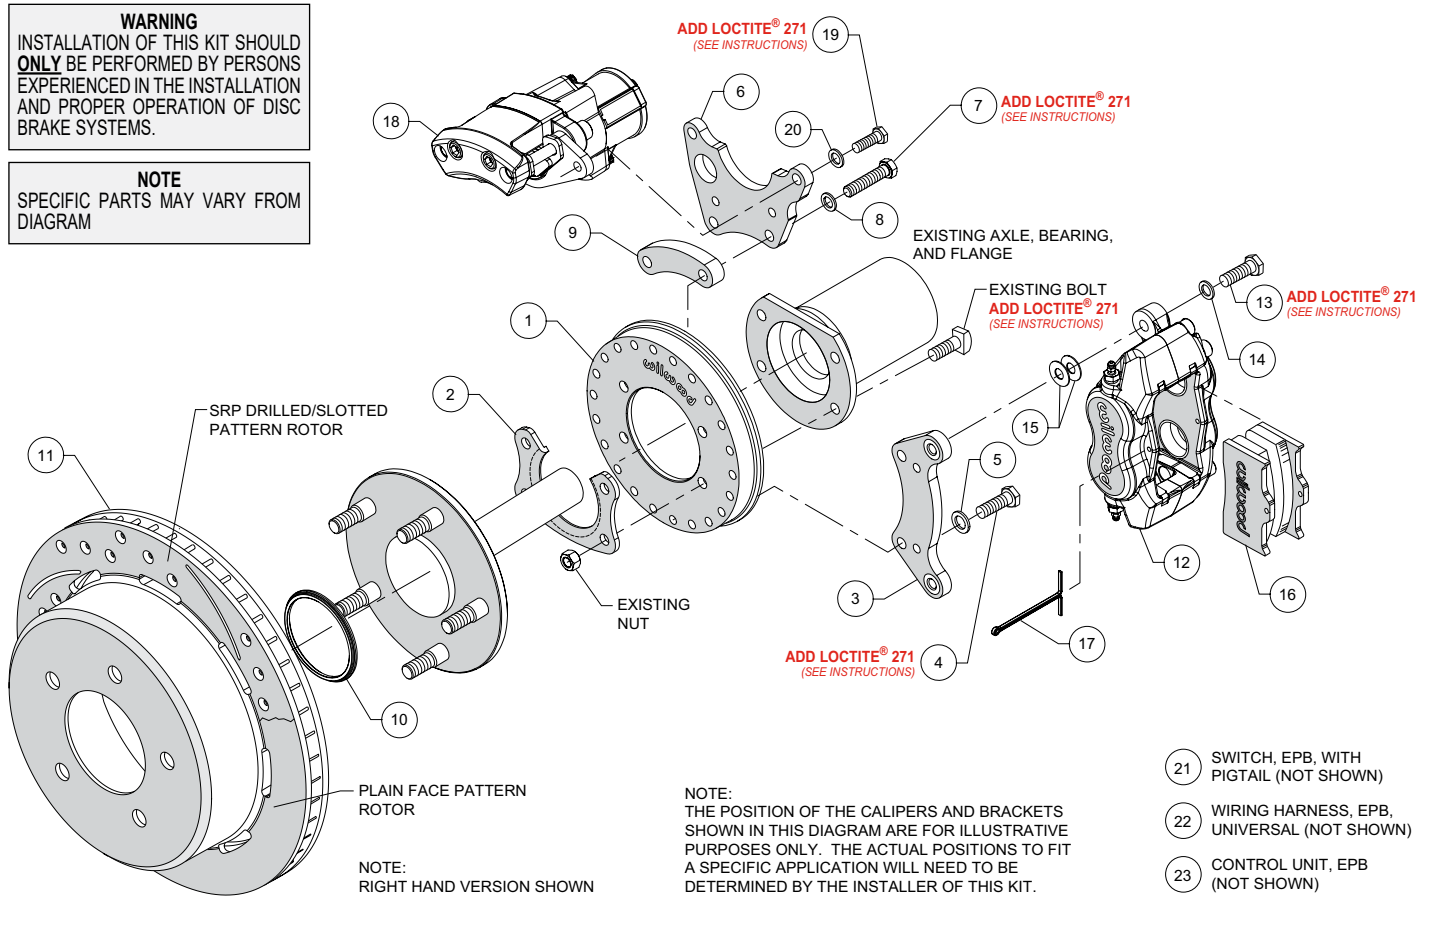
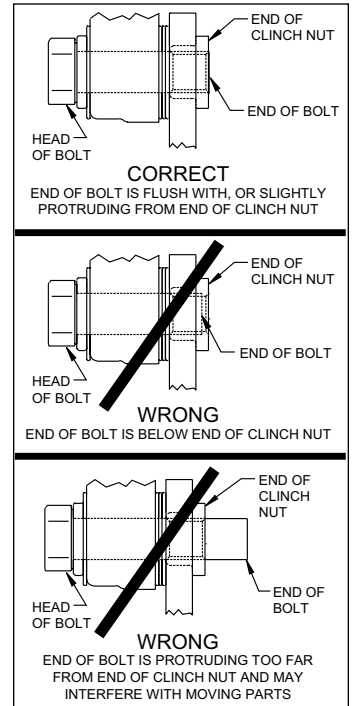

Figure 1. Typical Installation Configuration
Figure 5. Clinch Nut Engagement Diagram
NOTE: Numbers in parenthesis refer to the parts list and Figure 1 on the preceding pages.
CAUTION: All mounting bolts must fully engage clinch nuts. Be sure to check that all bolts are either flush or protruding through flanged side of clinch nut after shimming, Figure 5.
- Orient the backing plate (1) as shown in Figure 1 and Photo 1, and slide it onto the axle housing flange. Ensure the backing plate fits flush against the axle housing flange. Reinstall the axle into the axle housing.
- Install the bearing retainer (2) with the opening pointing upward and the lip facing inward (toward the bearing), as shown in Figures 1 and 4, and Photo 2. Secure retainer and backing plate to the axle housing flange using the Original Equipment Manufacturer (OEM) bolts and nuts, Figure 1 and Photo 3. Apply red *Loctite*® 271 to the OEM bolt threads and torque to OEM specifications.
•Start by determining the best location for the service caliper (12). This caliper is usually mounted in the 3:00 or 9:00 o'clock position, but may be rotated up or down approximately 45 degrees and still allow for proper bleeding, Photo 4. Orient the service caliper bracket (3) as shown in Figure 1 and Photo 5, and install to the backing plate (1) in the desired location using bolts (4) and washers (5). Temporarily tighten bolts. Next, mount the service caliper to the bracket using bolts (13) and washers (14). Temporarily tighten bolts. Check that the caliper (including inlet fitting and hose) has sufficient clearance to all surrounding components through the full suspension travel. Relocate the caliper/bracket on the backing plate as needed to ensure proper clearance is achieved.
•Determine the best location for the EPB caliper (18). **NOTE:** *The EPB caliper motor extends farther inboard than the service caliper and therefore needs additional consideration when determining a mounting location with sufficient clearance.* In the example application shown in Photo 6, the EPB caliper has sufficient inboard clearance to the leaf spring. However, if the EPB caliper were mounted closer to the 12:00 o'clock position, the inner body of the vehicle would hit the caliper during full compression of the suspension.
- Orient the EPB caliper bracket (6) as shown in Figure 1 and Photo 7, and install to the backing plate (1) in the desired location using bolts (7), washers (8), and spacer (9). Temporarily tighten bolts. **NOTE:** The EPB bracket is reversible. In one direction the bracket will position the EPB caliper closer to the service caliper, and vice versa if reversing the bracket. Next, mount the EPB caliper (18) to the bracket using bolts (19) and washers (20). Temporarily tighten bolts. **NOTE:** EPB calipers are Left and Right handed, however they can be used on either side of the vehicle to best suit your specific application. Check that the EPB caliper (including wiring harness connector) has sufficient clearance to all surrounding components through the full suspension travel. Relocate the EPB caliper/bracket on the backing plate as needed to ensure proper clearance is achieved.
- Once the caliper positions have been determined, remove both the service (12) and EPB (18) calipers, leaving both brackets in place on the backing plate. For both brackets, remove the bolts one at a time, apply red *Loctite*® 271 to the threads, and torque to 35 ft-lb.
- Slide the rotor registration adapter (10) onto the register on the axle flange with the smaller O.D. facing toward the rotor/hat (11), Photo 8. Align the hole pattern in the rotor/hat with the stud pattern on the axle flange and slide into place, Figure 1. **NOTE:** The rotor/hat must fit flush against the axle flange or excessive rotor run out may result. Install three lug nuts (finger tight) to keep the rotor/hat assembly in place while continuing with the installation. **NOTE:** Some OEM and after market axles come with stud sizes larger than 0.50" diameter. Verify stud size and have a qualified machine shop drill the bolt circle of the hat/rotor to the correct stud size, if necessary.
- NOTE:** Please reference the caution statement at the beginning of the assembly instructions. Remount the service caliper (12) onto the caliper mounting bracket (3) using bolts (13) and washers (14), as shown in Figure 1. Initially place two .035" thick shims (15) on each bolt between the caliper and the bracket, Photo 9. Temporarily tighten the mounting bolts and view the rotor (11) through the top opening of the caliper. The rotor should be centered in the caliper, Photo 10. If not, adjust by adding or subtracting shims (15) between the bracket (3) and the caliper (12). Always use the same amount of shims on each of the two mounting bolts. **NOTE:** The end of each bolt must be flush with or slightly protruding from the head of the clinch nut, as shown in Figure 5. If necessary place spare shims (15) between washer (14) and caliper mounting ear to achieve the proper clinch nut engagement. Once the caliper alignment and clinch nut engagement are correct, remove the bolts one at a time, apply red *Loctite*® 271 to bolt threads, and torque to 40 ft-lb.
- Mount the EPB caliper (18) onto the caliper mounting bracket (6) using bolts (19) and washers (20), Figure 1. Apply red *Loctite*® 271 to bolt threads, and torque to 30 ft-lb.
- NOTE:** *The service caliper (12) in this brake kit utilizes a 1/8-27 NPT pipe thread inlet. OEM rubber brake hoses generally cannot be adapted to Wilwood calipers.* The preferred method is to use steel adapter fittings at the caliper, either straight, 45 or 90 degree (use PTFE tape on pipe threads of adapter fitting for proper sealing to caliper) and enough steel braided line to allow for full suspension travel. **Carefully route hoses to prevent contact with moving suspension, brake or wheel components.** **NOTE:** *Wilwood hose kits are designed for use in many different vehicle applications and it is the installer's responsibility to properly route and ensure adequate clearance and retention for brake hose components.* Wilwood offers universal brake flex line hose kits, domestic (3/8-24 IF) chassis fittings, order: